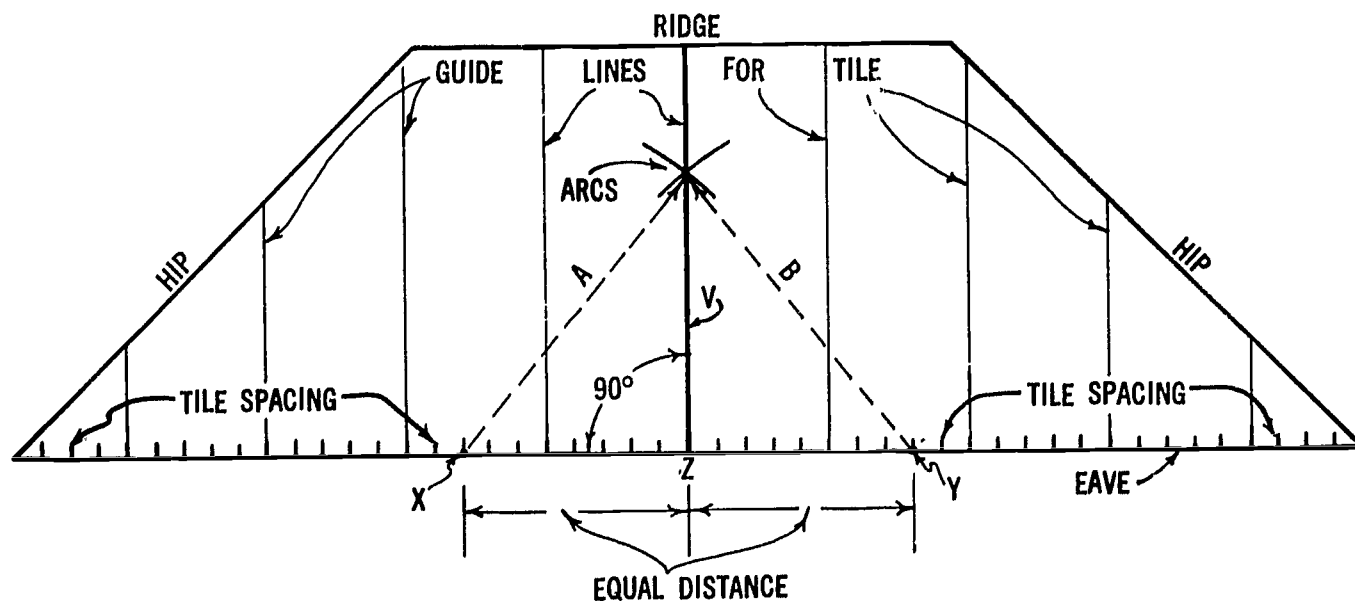

Fig. C-5. Layout of guidelines on a hip roof
The layout of vertical and horizontal guidelines may be made in the following manner: On a gable roof, vertical and horizontal guidelines may be laid parallel to the rake and ridge (respectively) of the roof. However, on a hip roof, or on any roof where the rakes or barge boards are not parallel to each other (nor perpendicular to the ridge or eave), the vertical guidelines must be established at a 90-degree angle to the horizontal lines. This can be done as illustrated in Fig. C-5.
- Mark eave course line as shown in Fig. C-5.